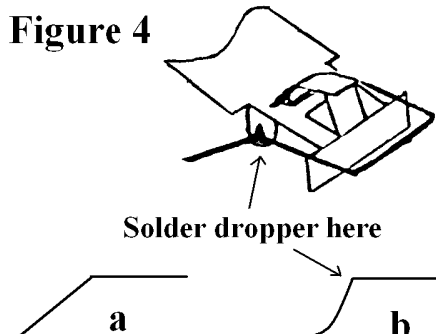

Figure 4
11. Hold the loop in a vice or clamp and solder a piece of the steel wire to the outside as shown in Figure 4. There are two options: